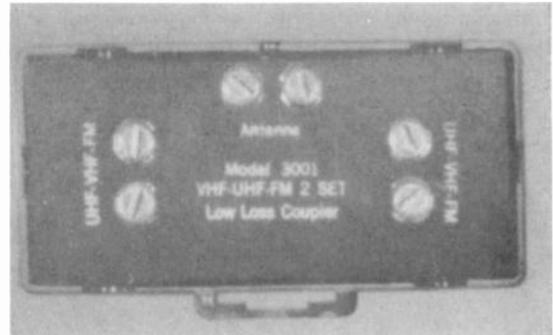

FIGURE 25-32 TWO-SET COUPLER. LENGTH IS 2 $\frac{1}{2}$  IN. (THE FINNEY CO)
**Multiset coupler.** As shown in Fig. 25-32, this is a small, inexpensive unit designed to provide multiple 300- $\Omega$  output terminals for two to four